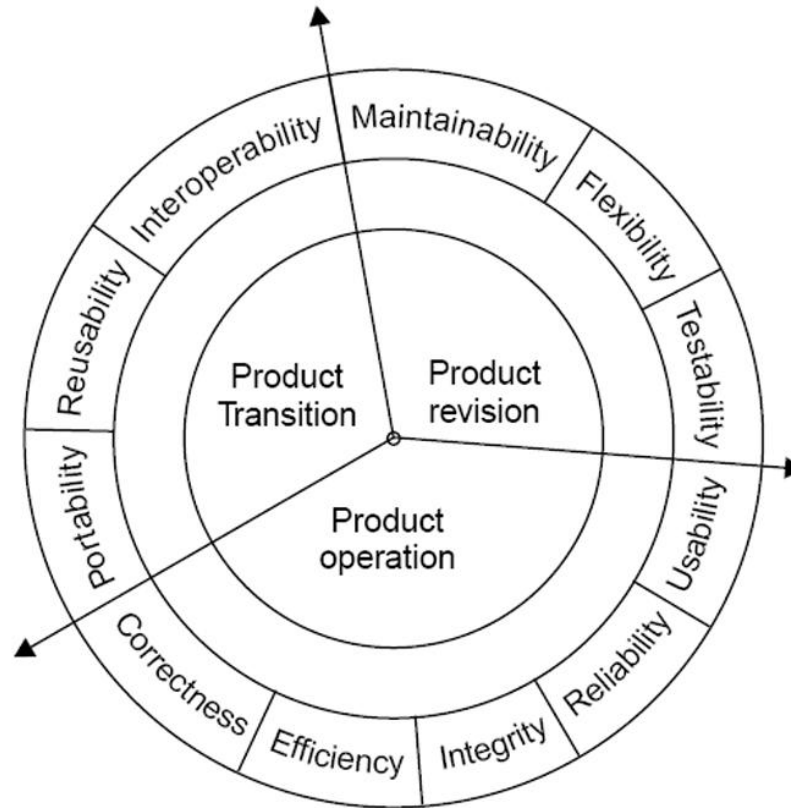

Fig 7.9: Software quality factors
- **Quality criteria** can be measured either **subjectively or objectively**. The software quality factors are organised in three product quality factors as shown in Fig. 7.9.